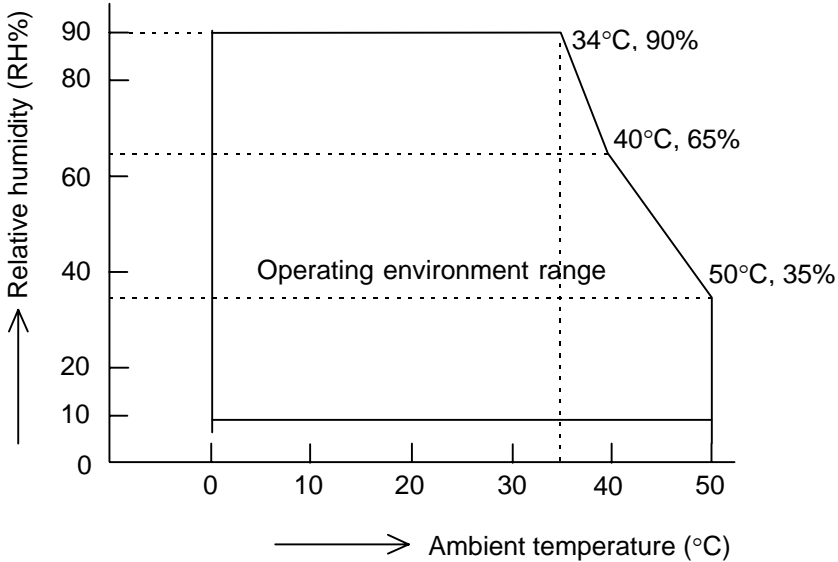

Figure 1.13.1 Operating Temperature and Humidity Range
- (1) Temperature
- During operation: 0 to 50°C (at 34°C or higher, there are humidity restrictions; refer to Figure 1.13.1.)
- (2) Humidity